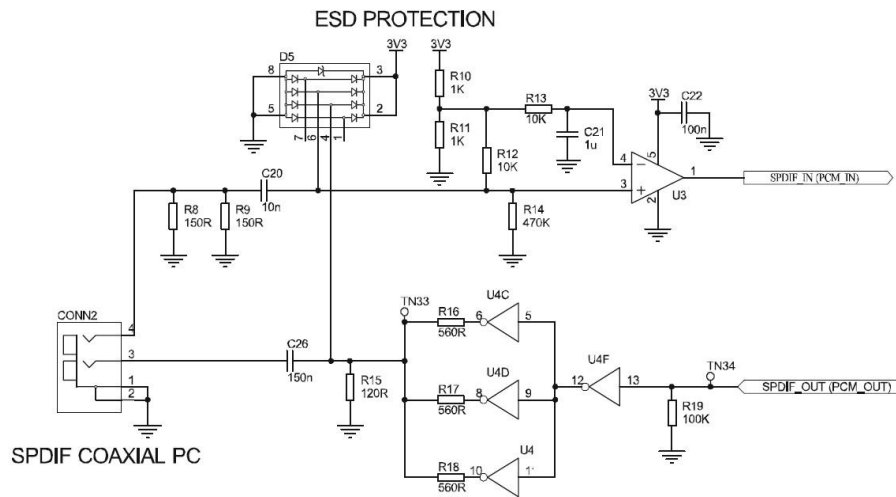

Figure 6. Example Circuit for SPDIF Interface (Co-Axial)
- A 75Ω coaxial cable with an RCA connector, see Figure 6.